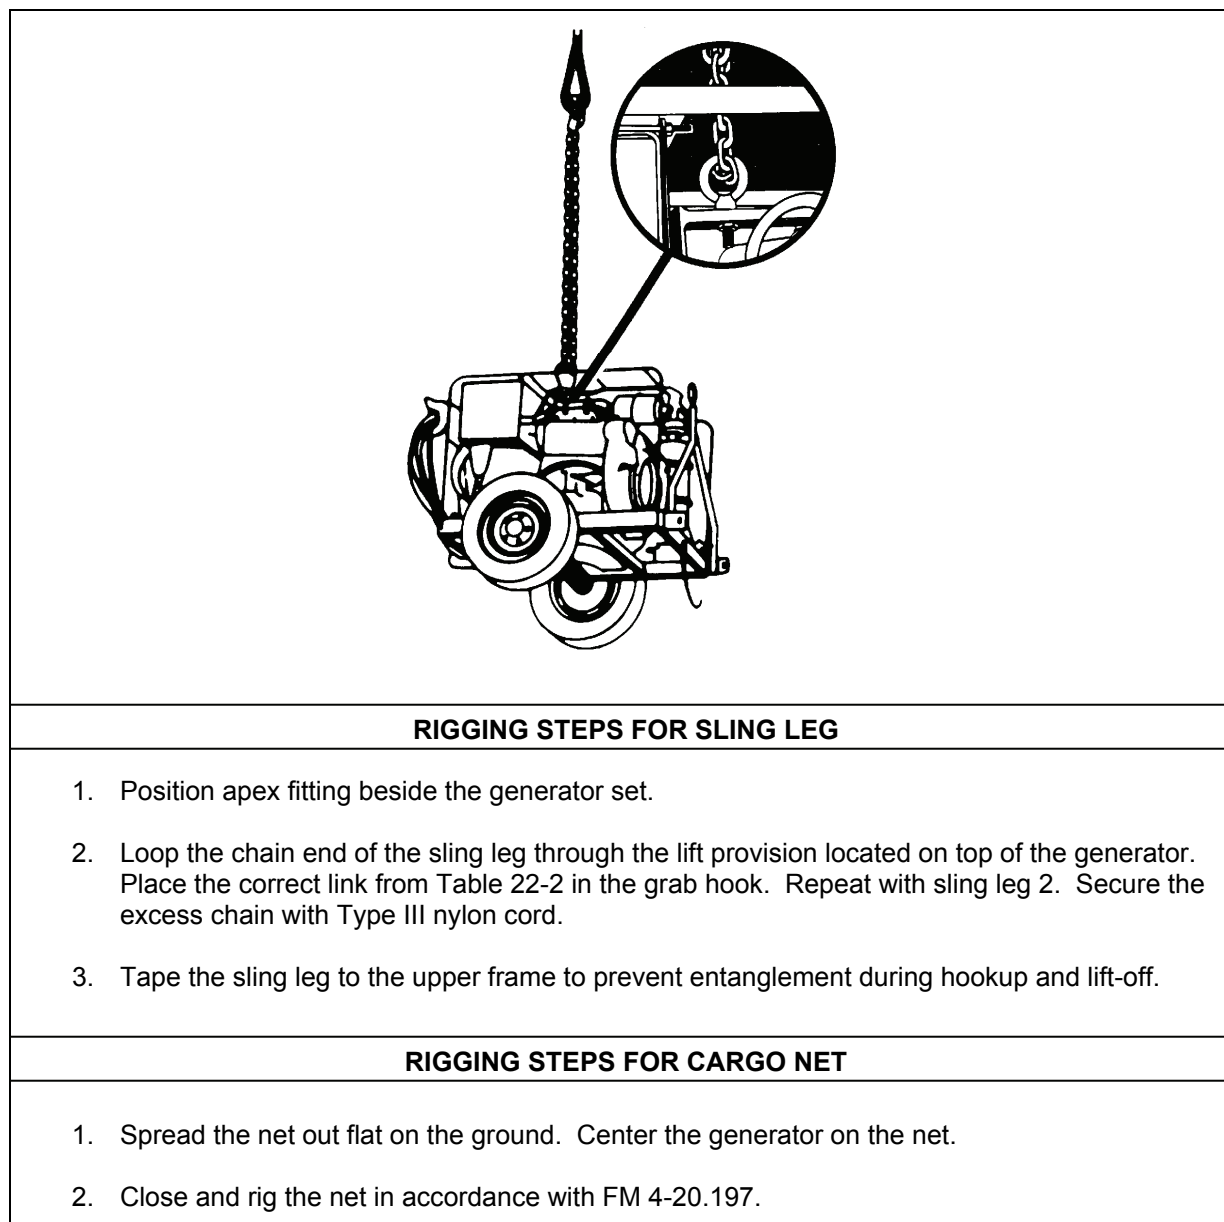

Figure 22-2. 7.5KW Generator Set
- **Rigging.** Rig the load according to the steps in Figure 22-2.